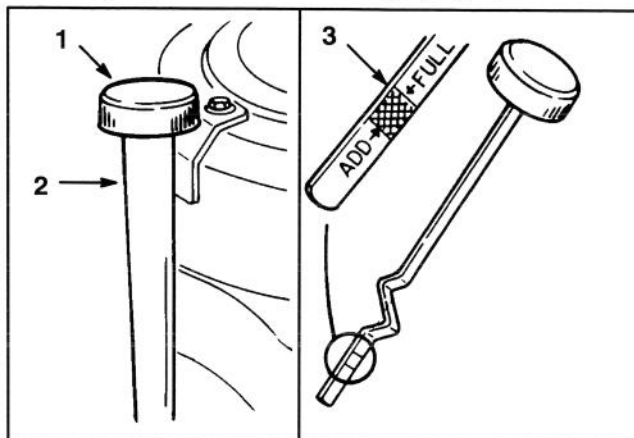

Figure 8
3. Un-thread and remove the oil fill cap/dipstick; wipe oil off. Reinstall the dipstick into the tube and rest the oil fill cap on the tube. Do not thread the cap onto the tube (Fig. 8).
4. Remove dipstick and check oil level. The level should be between the FULL and ADD marks. If low, add oil of proper type up to the FULL mark. Reinstall the oil fill cap/dipstick and thread tight (Fig. 8).
7. Remove dipstick and check oil level. The level should be between the FULL and ADD marks. If low, add oil of proper type up to the FULL mark. Reinstall the oil fill cap/dipstick and thread tight (Fig. 8).